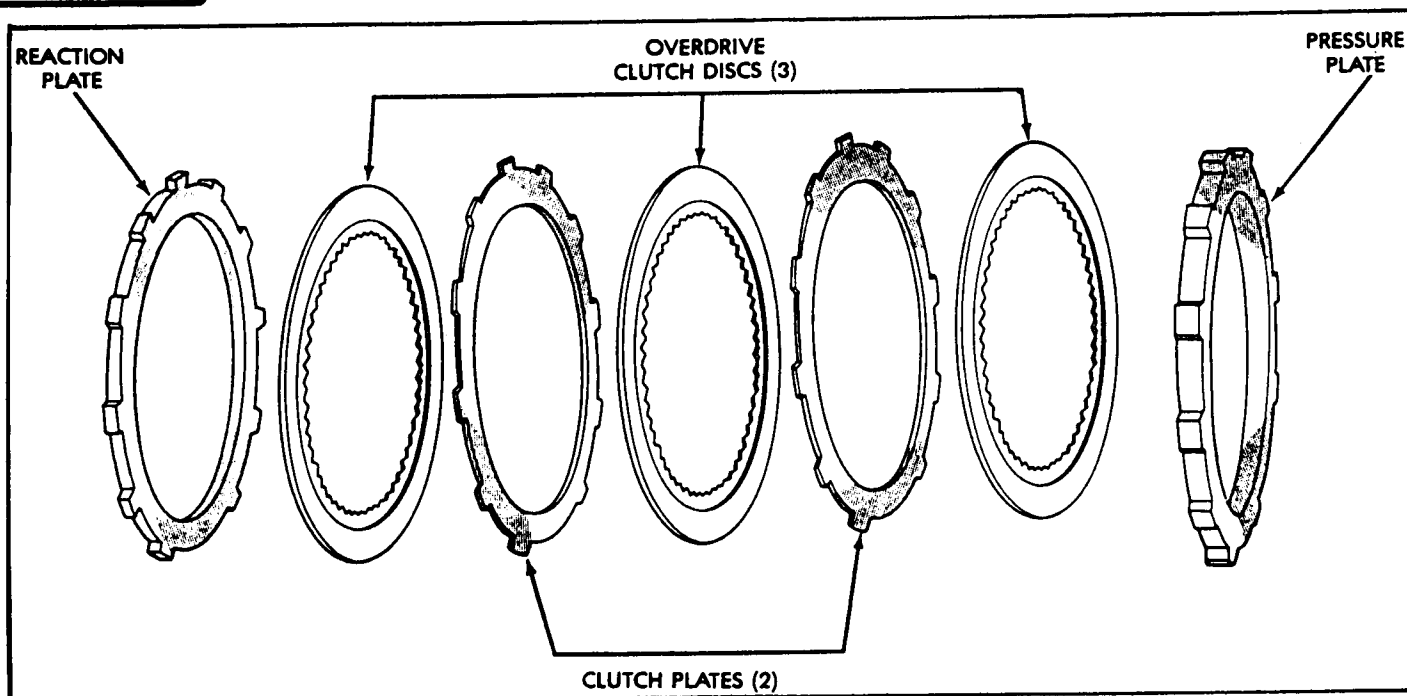

Figure 33
46. Install the overdrive clutch reaction plate into overdrive housing on top of the snap rings as shown in Figure 33. Note that reaction plate is thinner than the pressure plate (Figure 33).
47. Install the first lined clutch plate, followed by a steel plate, alternating until the overdrive clutches have all been installed (See Figure 33).